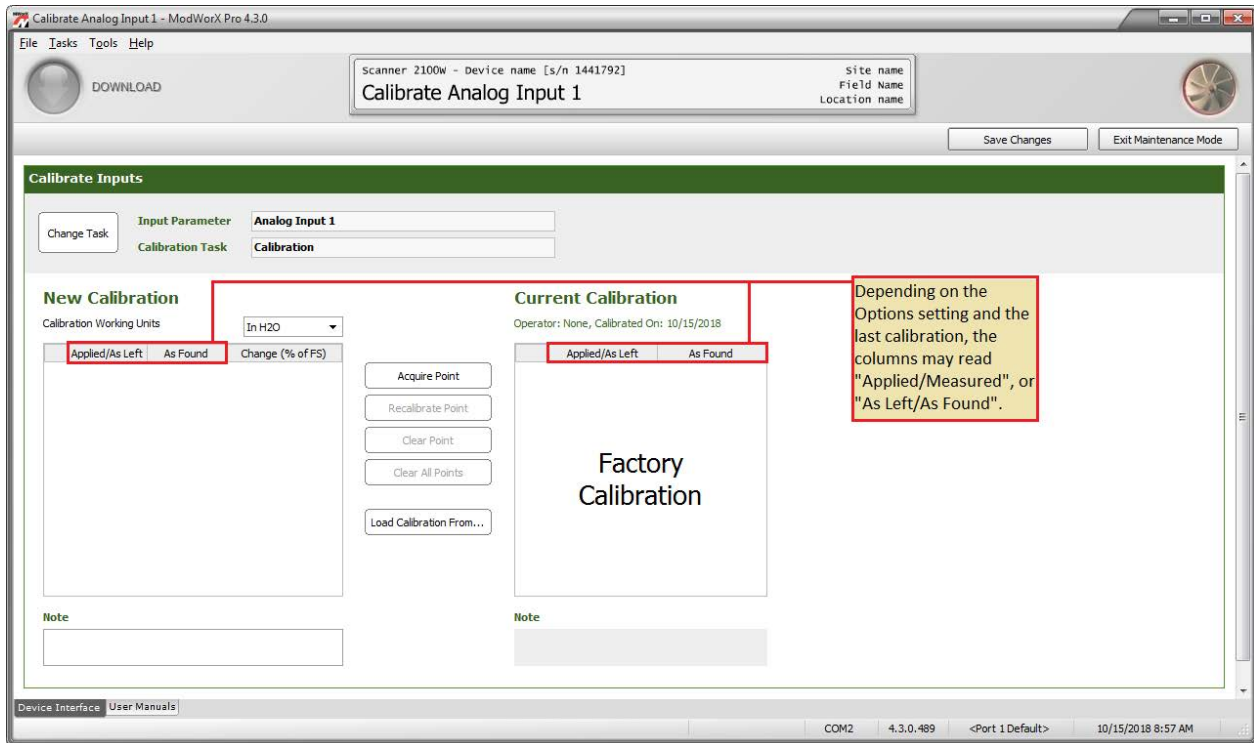

Figure 6.24
1. Observe the calibration settings at the bottom of the screen (Figure 6.24, page 85). To calibrate the sensor, click on the blue **Calibrate** hyperlink in the Sensor Calibration section and follow the screen prompts.
- Observe the verification settings at the bottom of the screen (Figure 6.24). To verify the sensor's calibration, click on the blue **Verify** hyperlink and follow the screen prompts.